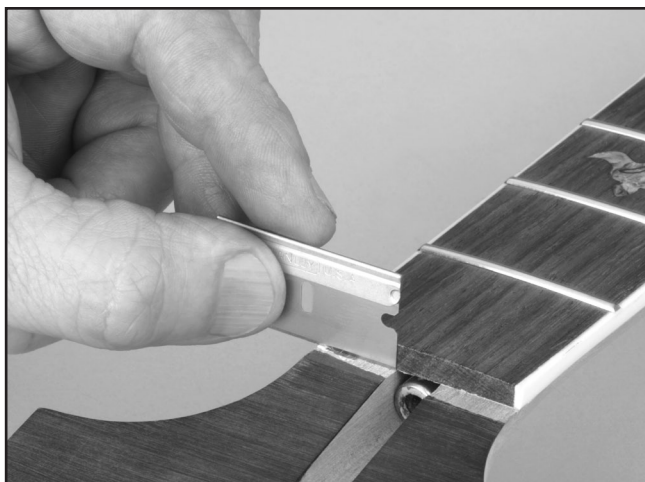

Figure 30. Installing the locking nut.
3. Drill 3/8" deep holes through the two holes shown in **Figure 30**.